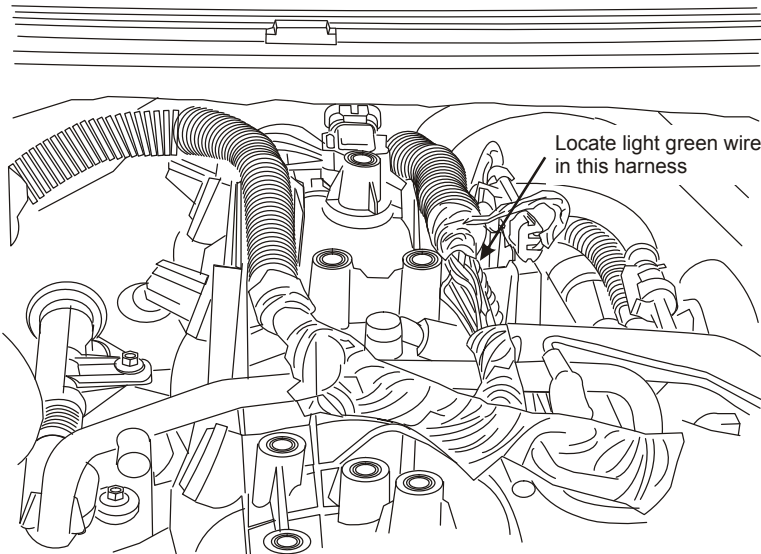

Figure 2.1
- If the truck has an automatic transmission, locate the wiring harness that runs up from the transmission and over the center of the engine intake manifold, through the trough on the driver's side of the intake (Figure 2.1). Remove the harness from the protective loom, cut the tape open and locate the light green wires in the bundle.